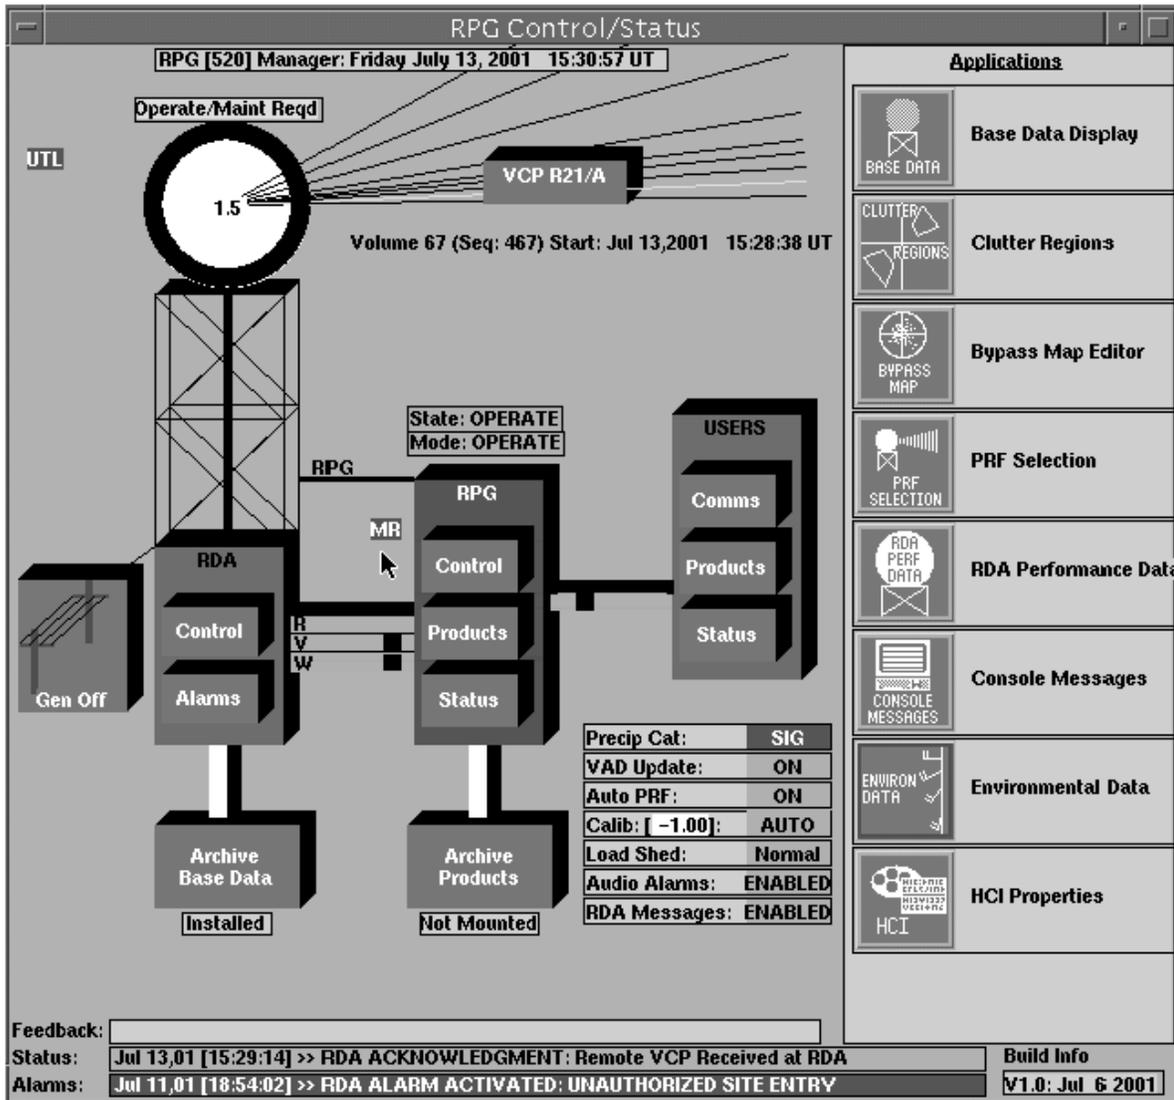

Figure 3. RPG Control/Status Menu Example
- b. In the `RPG Control/Status` window (see figure 3), directly to the right of the RPG icon is the Users icon that contains buttons labeled `Comms`, `Products`, and `Status`. In the Users Area of the Main Menu select **Comms**. Clicking on the `Comms` button within the Users icon opens the `Product Distribution Comms Status` window. (See figure 4). This window contains information about each narrowband line.